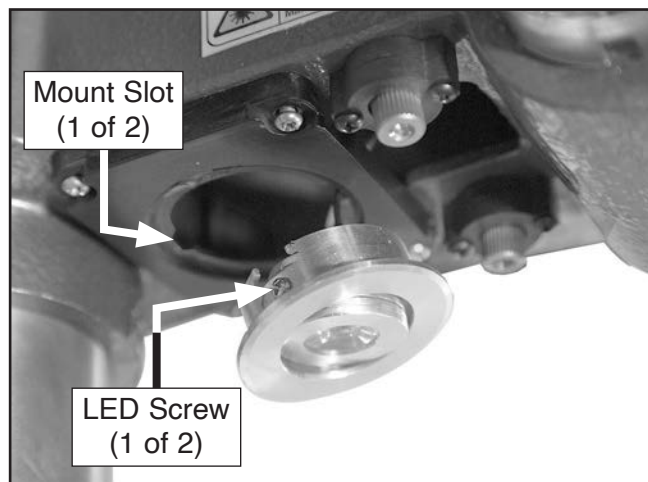

Figure 76. Location of LED screws and mount slots.
13. Feed new LED cord and LED into headstock, aligning screws in LED with slots in mount (see **Figure 76**).